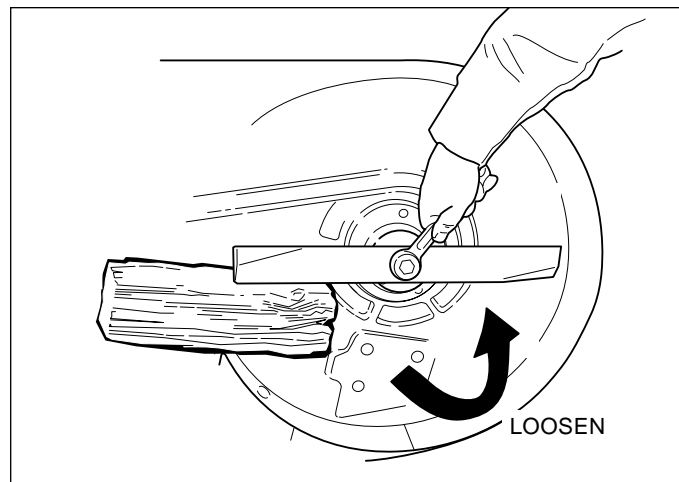

Figure 21. Removing the Blade
2. To remove blade for sharpening, use a wood block to hold blade while using two 15/16" wrenches to removing the blade mounting bolt and nut (Figure 21).